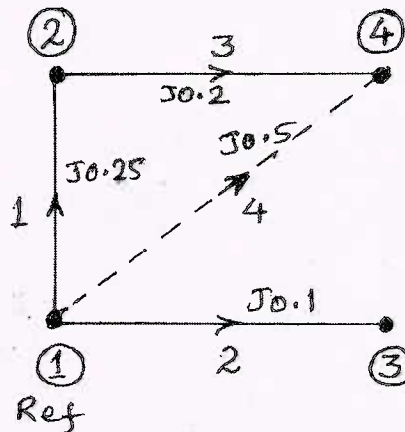

Fig.Q1(c)
- c. An oriented graph of a 4-bus power system is shown in Fig.Q1(c). Determine the bus admittance matrix, Y_{bus} using singular transformation method. Element numbers and self-impedance of the elements are marked on the diagram in pu. Neglect mutual coupling.